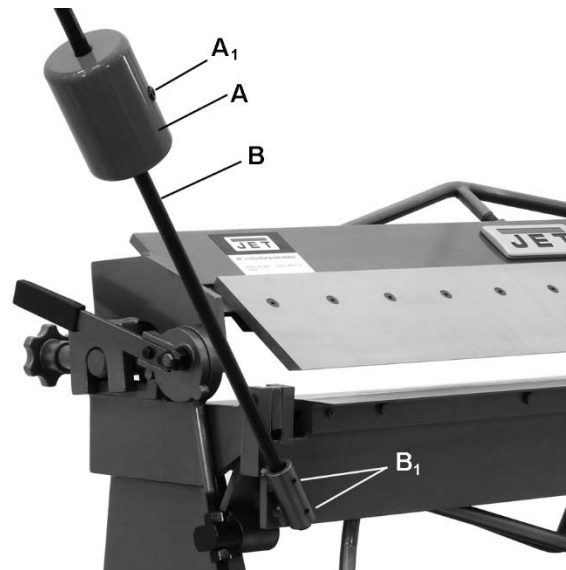

Figure 2
4. Install counterweight rod (B, Figure 2) into left hinge, and tighten set screws (B1). Slide counterweight (A) onto rod and tighten screw (A1).
To adjust counterweight, back out screw (A1, Figure 2) and slide counterweight to desired position. Retighten screw.